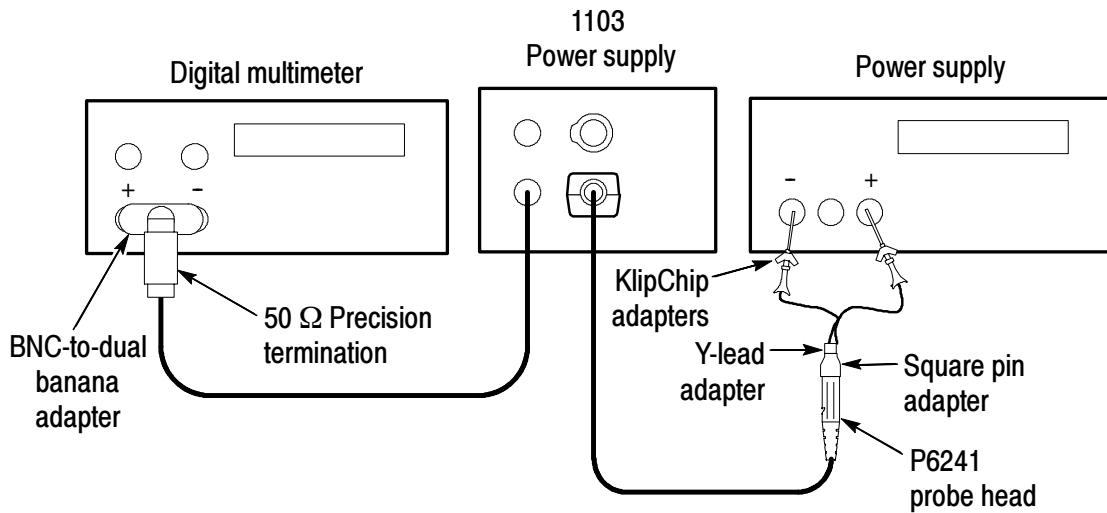

Figure 20: P6241 offset range setup
3. Connect the equipment as shown in Figure 20. Take care not to disturb the offset level setting on the 1103 power supply.